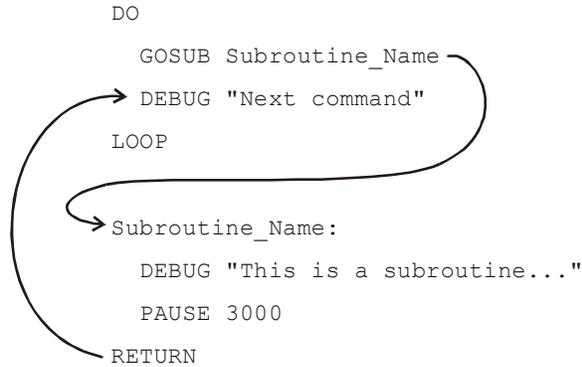

Figure 7-11
Figure 7-11 shows an example of a subroutine and how it's used. The command `GOSUB Subroutine_Name` causes the program to jump to the `Subroutine_Name:` label. When the program gets to that label, it keeps running and executing commands until it gets to a `RETURN` statement. Then, the program goes back to command that comes after the `GOSUB` command. In the case of the example in Figure 7-11, the next command is: `DEBUG "Next command"`.
- √ Add the subroutine example in the Figure 7-11 on page 203 to `SimpleSubroutines.bs2`.